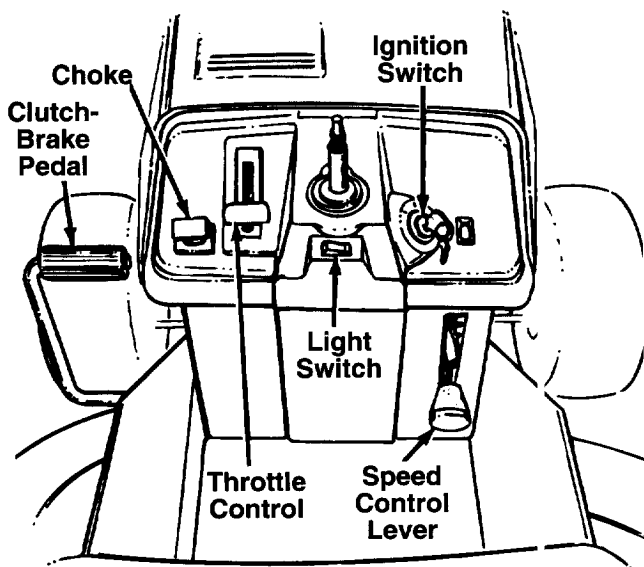

FIGURE 6.
The throttle control is used to regulate the engine speed. To get maximum efficiency from cutting, the throttle should be in the FAST position when operating the mower. See figure 6.
The choke control is located on the dashboard and is operated manually. Details for the choke operation are covered in the separate engine manual packed with your unit. See figure 6.
The speed control lever allows you to regulate the ground speed of the lawn tractor. See figure 6. To select the ground speed, depress clutch pedal. Push speed control lever inward and move downward to slow lawn tractor, move upward to increase speed. When desired speed has been obtained, release lever in that position. Whenever clutch is engaged, unit will automatically go to the pre-set speed.
Turn the key to the START position to start the engine. When the engine is running, let the key return to the ON position. To stop the engine, turn the key to the left to the OFF position and remove it to prevent accidental starting. See figure 6.
Push the light switch to turn on the lights. The lights will only operate when the engine is running. See figure 6.
The clutch-brake pedal is located on the left side of the lawn tractor. Depressing the clutch-brake pedal part way disengages the clutch. Pressing the pedal all the way down disengages the clutch and engages the disc brake. See figure 6.
3. Set the throttle control in the FAST position. See figure 6.
5. Turn the ignition key to the START position. When the engine is running, let the key return to the ON position. See figure 6.